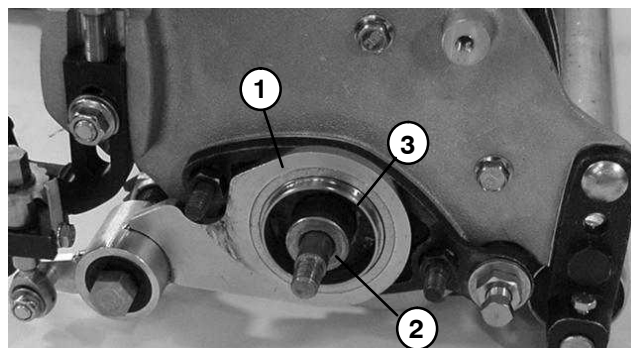

Figure 20
3. Slide spacers from LH reel shaft and LH reel bearing housing (Fig. 20).
7. Slide spacers onto LH reel shaft and LH reel bearing housing (Fig. 20).